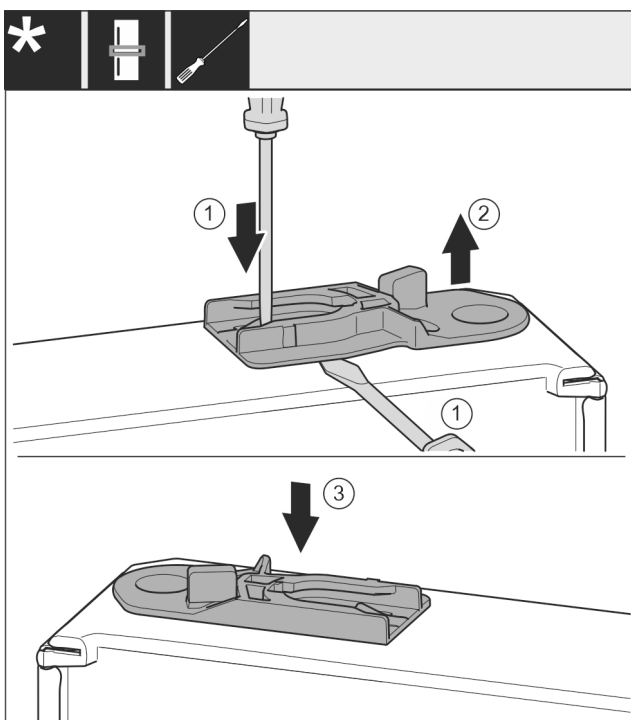

Fig. 34
Pull out the guide bush: Press the tab *Fig. 34 (1)* with a flat-blade screwdriver and at the same time move the flat-blade screwdriver under the guide bush *Fig. 34 (2)*.
Insert the guide bush *Fig. 34 (3)* supplied on the other side of the housing.